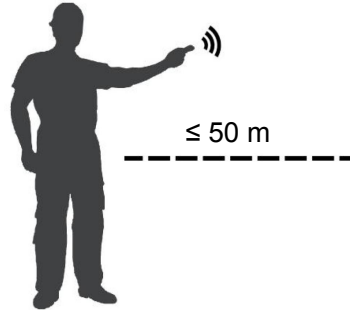

Fig. 11
5.2 Instructions for Remote Control (Fig.11)